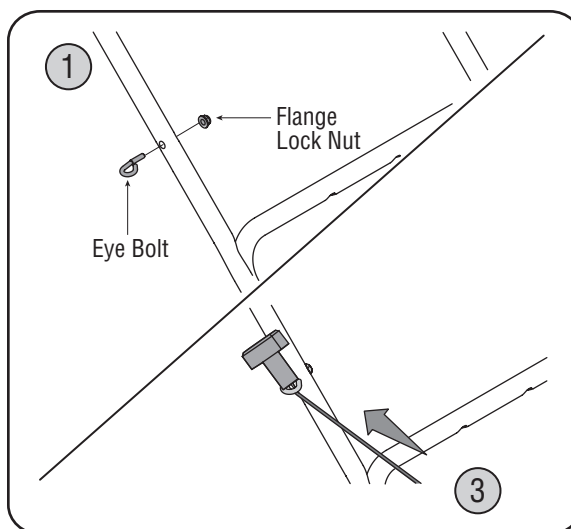

Figure 3-9
1. Attach the eye bolt to the upper handle and loosely thread the lock nut on to secure it. Do NOT tighten. See Figure 3-9.
3. Loop the rope through the eye bolt. See Figure 3-9.